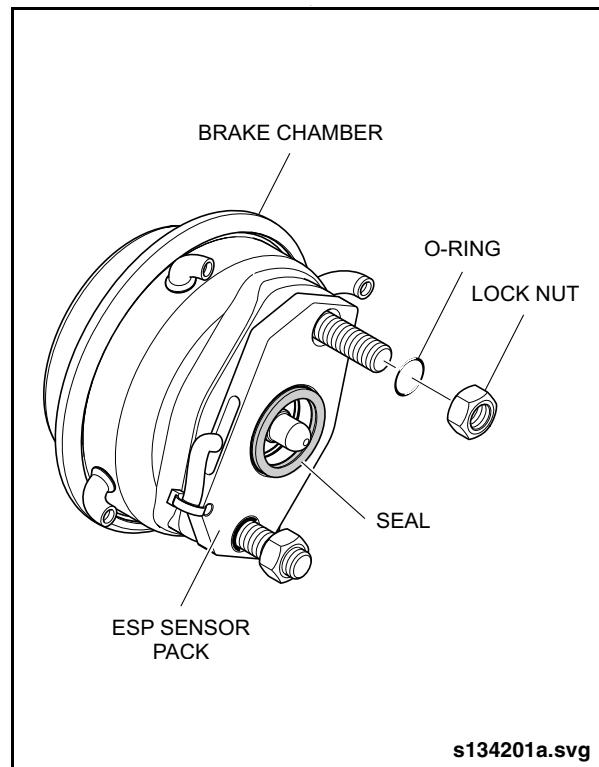

Fig. 1-76: Front Brake Chamber ESP Sensor Pack
- a. Note the position of the ESP sensor pack and carefully remove it from the brake chamber. Retain the two O-rings. See "Fig. 1-76: Front Brake Chamber ESP Sensor Pack" on page 74.